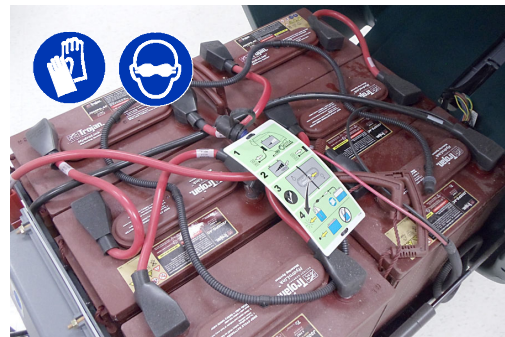

**FIG. 72**
4. Inspect and clean the seal on the recovery tank lid (Figure 72). Replace seal if damaged.